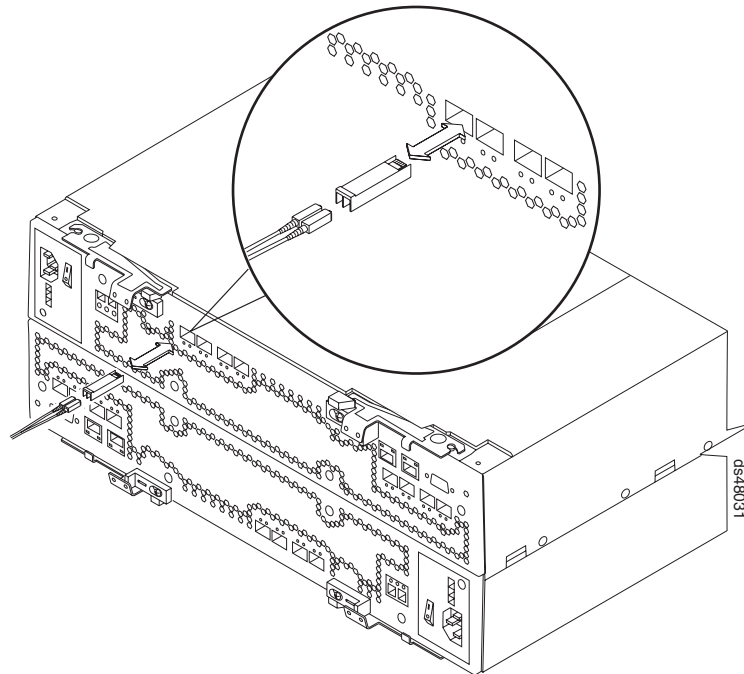

Figure 102. Replacing an SFP module
6. Disconnect the interface cable from the SFP module. (Figure 102 on page 167 shows the SFP module, interface cable, and the rear of a controller.)